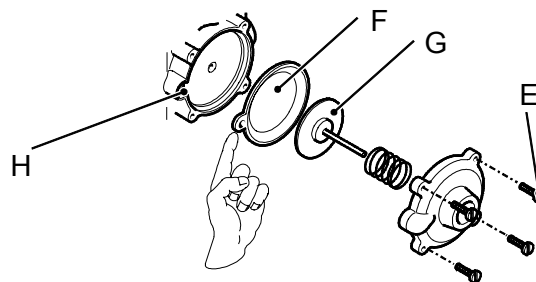

Figure 5
- 3) Unscrew the four screws E (see Figure 5) open the hydraulic operator and remove the membrane F.
When assembling the membrane, ensure that its concave side faces towards the actuator plate G and the reference indicated aligns with the seat H (see Figure 5).